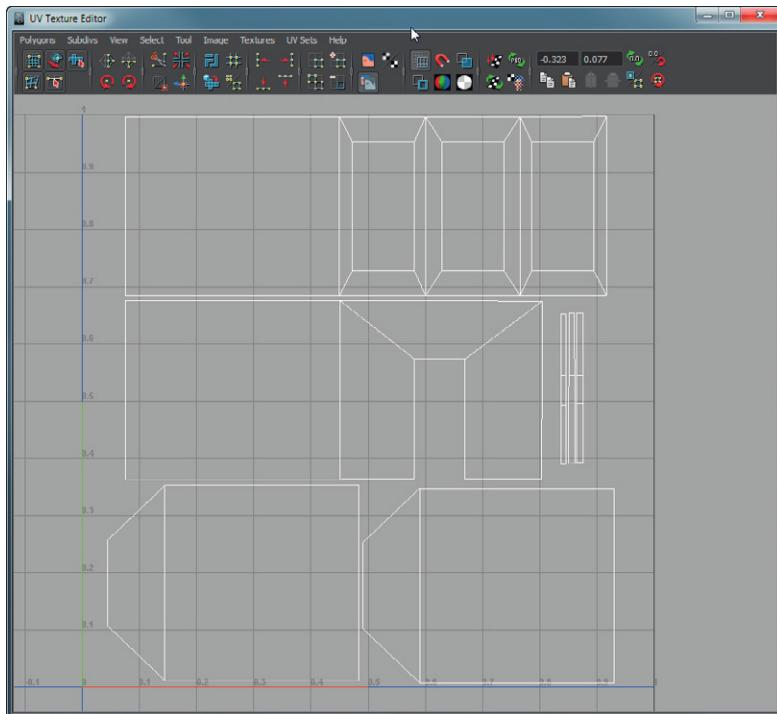

FIG 5.23 Scaled and positioned shells to make best use of UV space.
Step 24: Scale and move all the UV shells to better fit within the quadrant (Fig. 5.23).